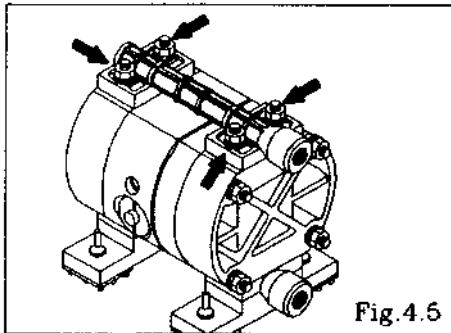

Fig.4.5
- Remove the 4 retainer nuts from the out manifold, and remove the out manifold. [Fig.4.5]